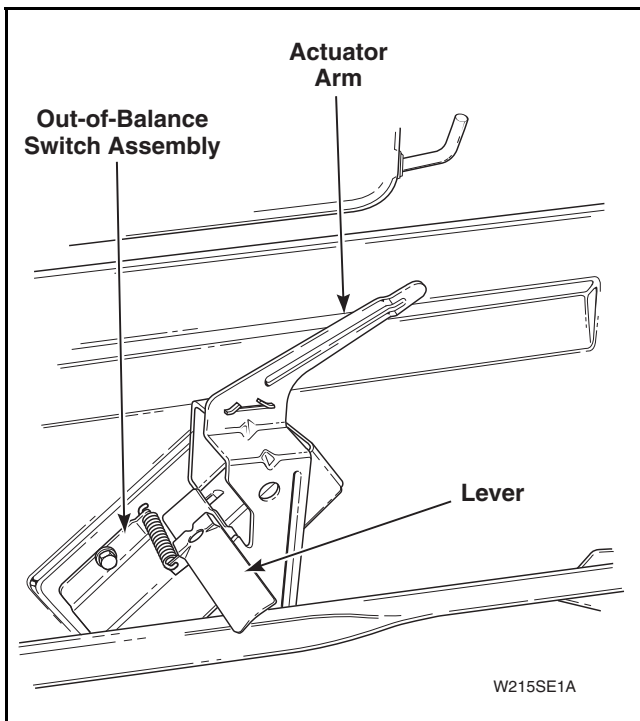

Figure 50
- Check for bent actuator arm or lever. Refer to *Figure 50*.